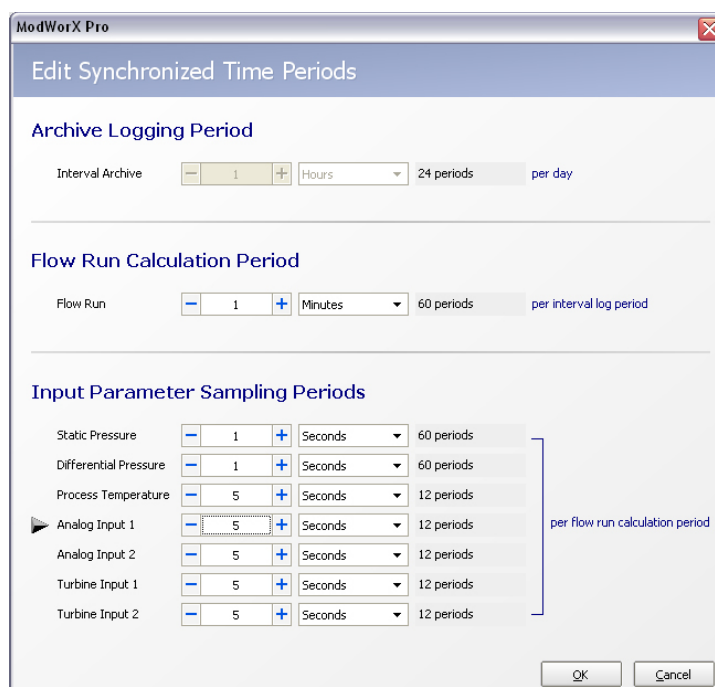

Figure 6.23
- i. Click **Edit**. The Edit Synchronized Time Periods dialog will appear, and an arrow will point to Analog Input 1 or Analog Input 2 (Figure 6.23, page 93).